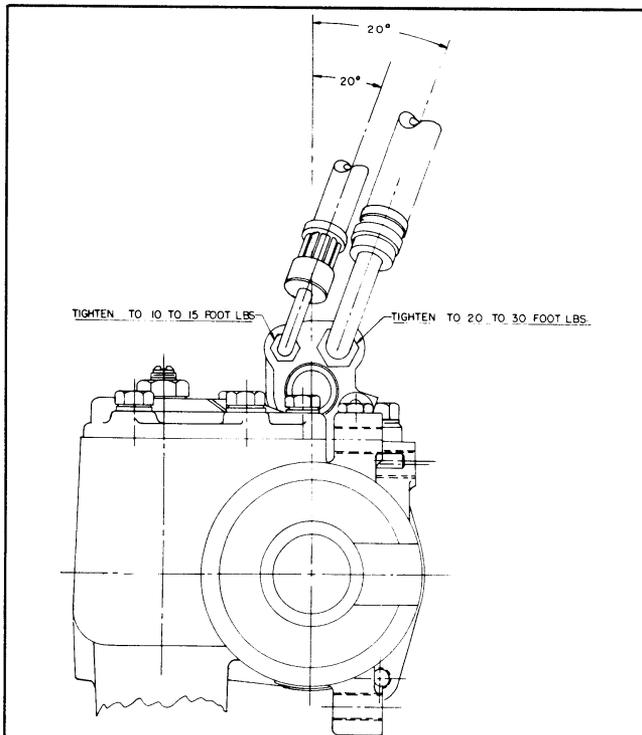

Fig. 5-68 Hose Installation
22. Install hoses as shown in Fig. 5-68.